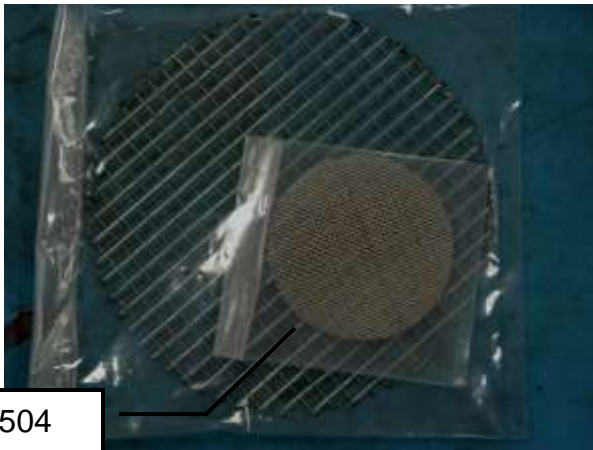

FIGURE 2.7: COLLECTION FUNNEL & ORIFICE SCREENS
12. Remove both screens from plastic bags and install in funnel as shown below. (Refer to Figure 2.7). Care must be taken at the sharp-edged orifice to avoid personal injury and damage to the thin edge.